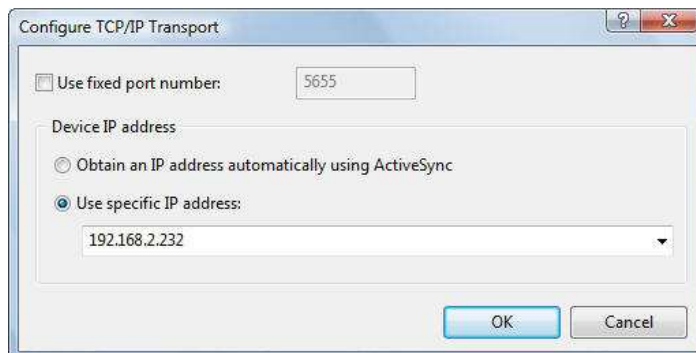

Fig. 58 - Configure TCP/IP Transport / Set device IP Address
- Select **Use specific IP address** and enter IP address for the SBC, as shown in Figure 58.